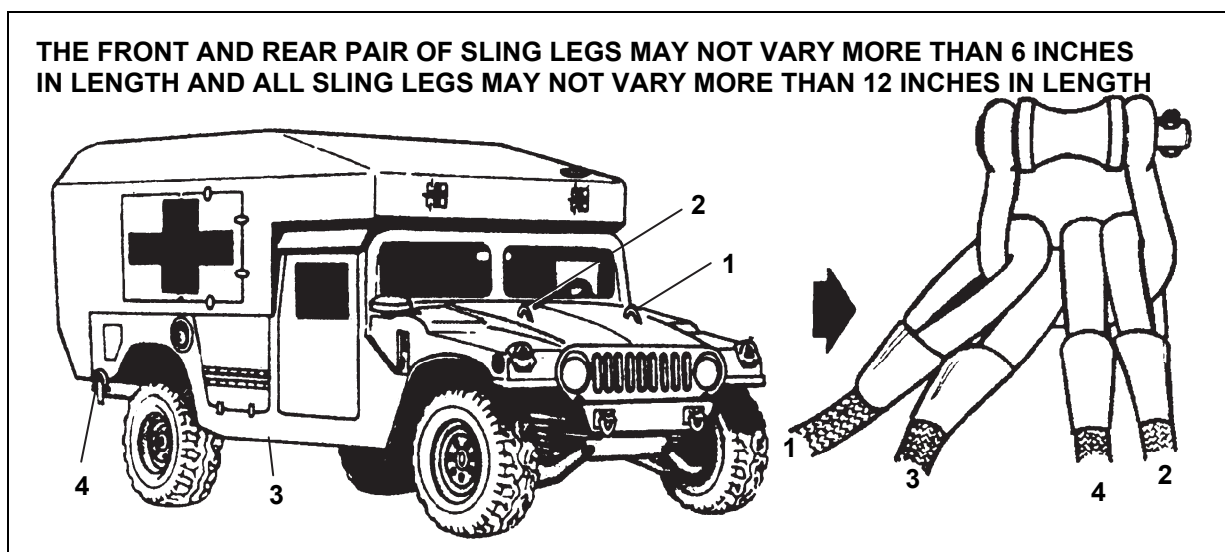

Figure 6-12. Load with Four Lift Points
- Most loads use four lift provisions and four sling legs (figure 6-12). Each pair of front sling legs (sling legs 1 and 2) may not vary more than 6 inches in length and should be the longest two sling legs of the four. Each pair of rear sling legs (sling legs 3 and 4) may not vary more than 6 inches in length and should be the shortest two sling legs of the four. The difference in length between the shortest and longest sling leg may not exceed 12 inches.